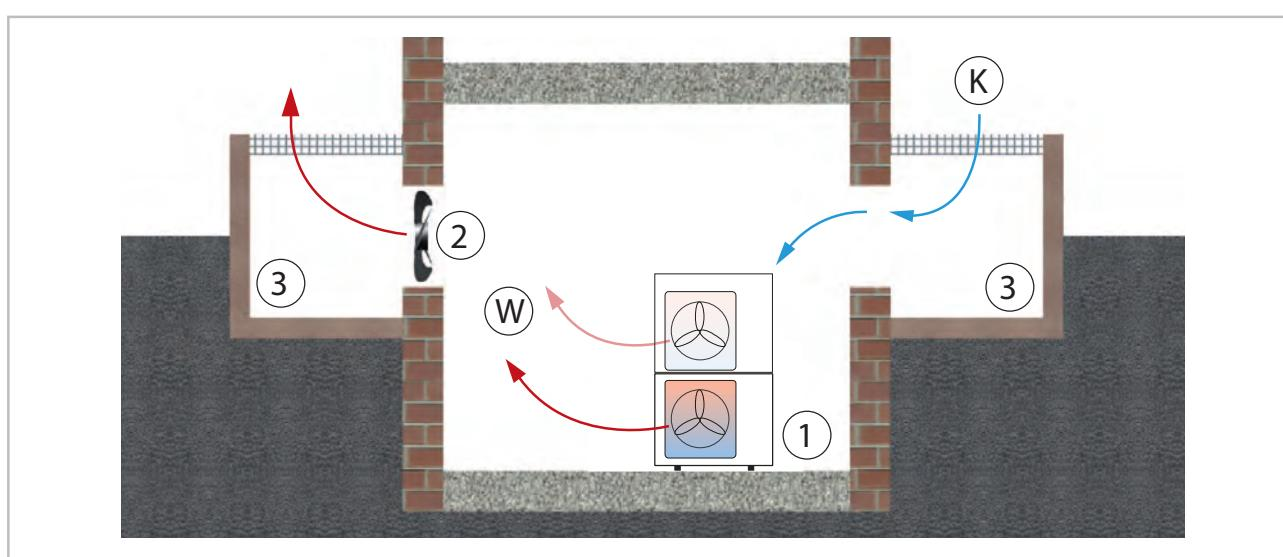

Fig. 16: Installation inside buildings
- Ensure that heat can dissipate adequately when placing the outdoor unit in cellars, lofts, adjoining rooms or halls (Fig. 16).
- Install an additional fan with a rated flow comparative to that of the outdoor unit being installed in the room and which can compensate any additional pressure loss in ventilation ducts (Fig. 16).